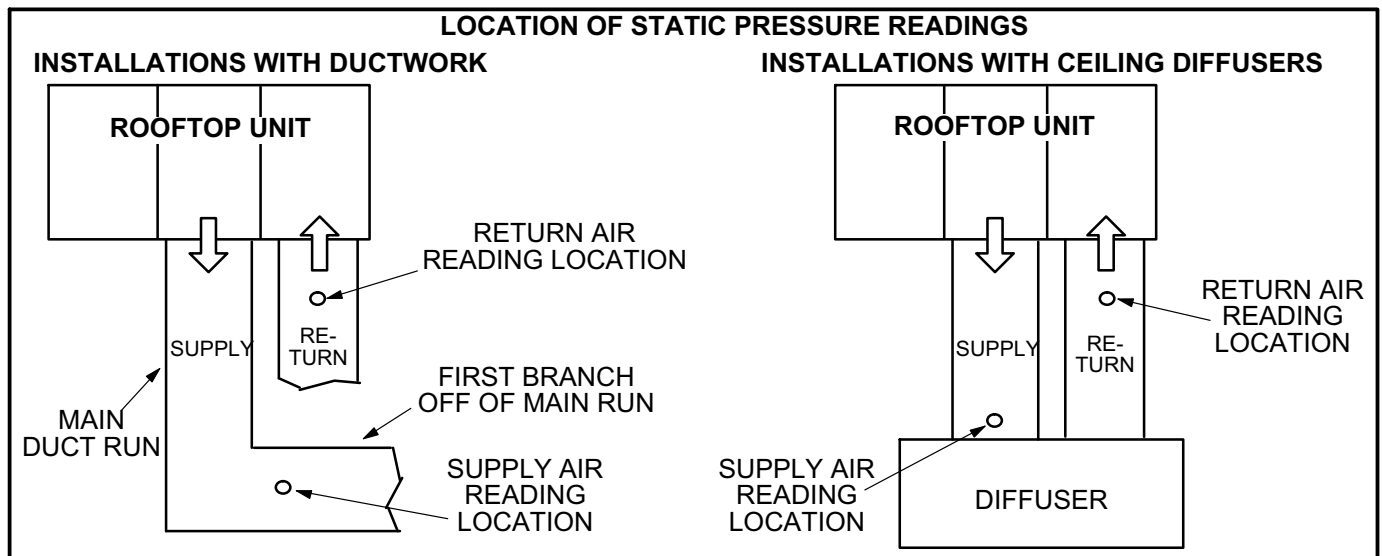

FIGURE 6
formance data is based on static pressure readings taken in locations shown in figure 6.
- 2- With all access panels in place, measure static pressure external to unit (from supply to return). Blower performance data is based on static pressure readings taken in locations shown in figure 6.